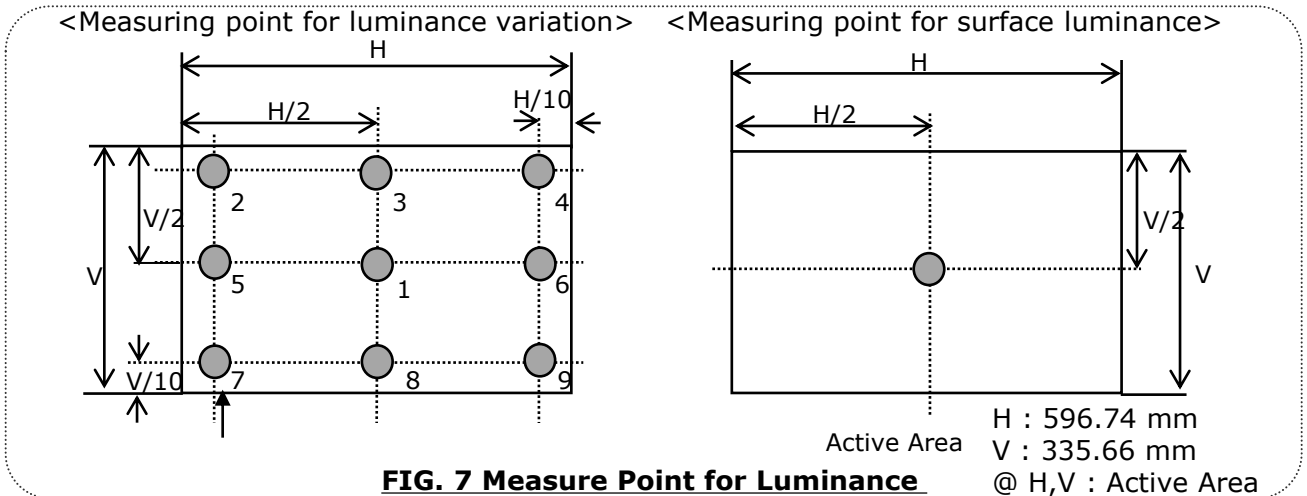

FIG. 7 Measure Point for Luminance
2. Surface luminance(L_{WH})is luminance value at Center 1 point(P1) across the LCD surface 50cm from the surface with all pixels displaying white. For more information see FIG.7 (By PR880)
For more information see FIG.7